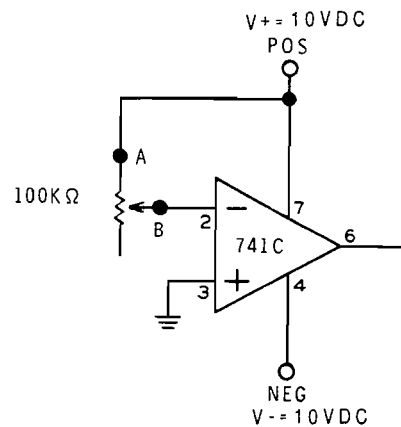

Figure 3-27
2. Construct the circuit shown in Figure 3-27. Notice that the inverting terminal (pin 2) is connected to the (+) 10 VDC supply through the 100 kilohm potentiometer. Turn on the Trainer.